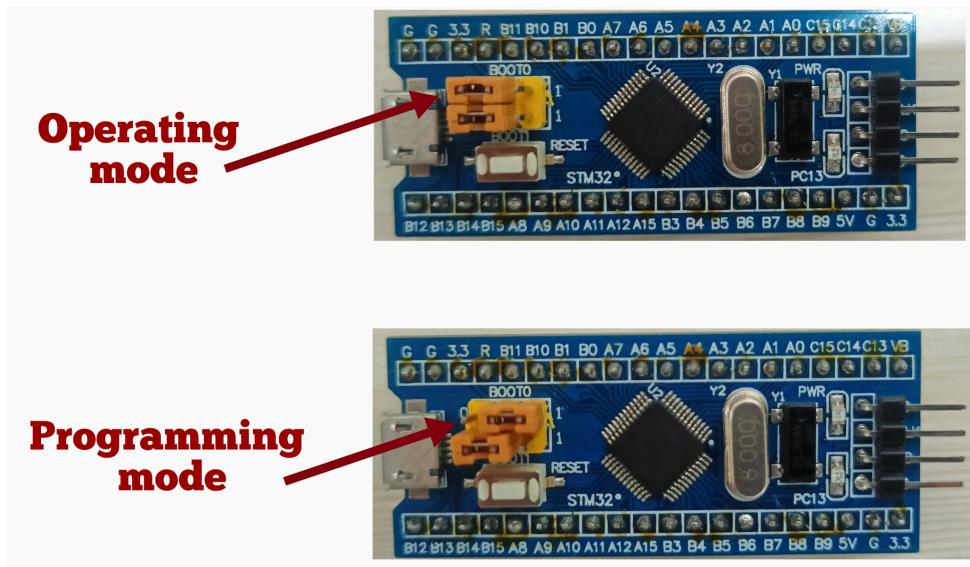

Fig. 13.2: STM32 Operating and Programming mode
- See how to enable programming mode in Fig. 13.2. This configuration will ensure that the microcontroller enters the system memory programmer on reset.
- Change the STM32 board to operating mode as shown in Fig 13.2 in order to run your code from the main flash memory.